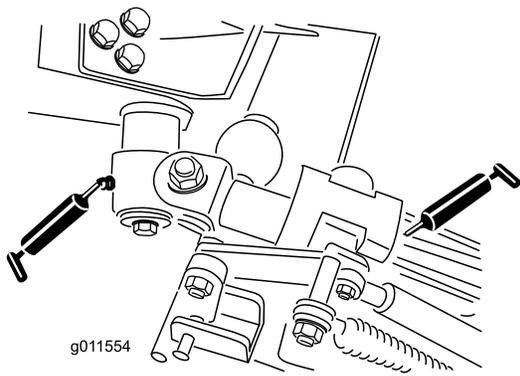

Figure 52
- 2 bell-crank-pivot bushings (Figure 52)
- 4 rear arm bushings (Figure 52)